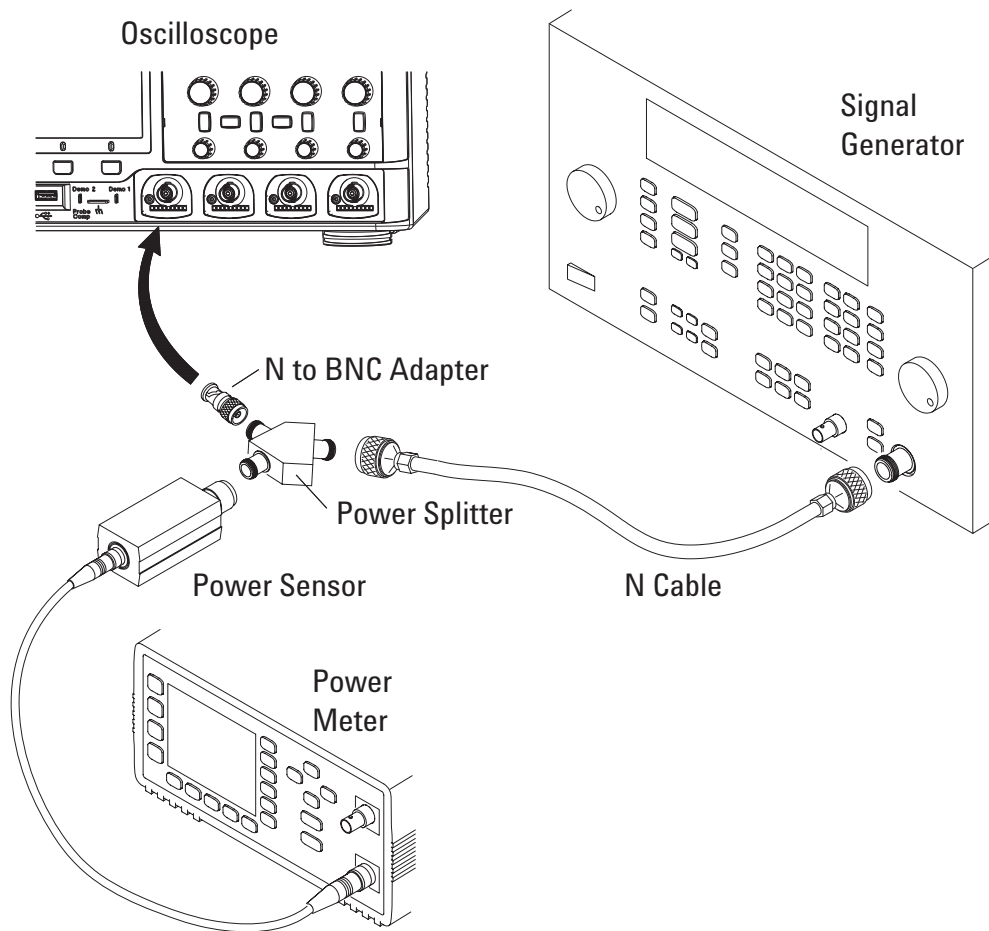

Figure 7 Setting Up Equipment for Bandwidth (-3 dB) Verification Test
- 1 Connect the equipment (see Figure 7).